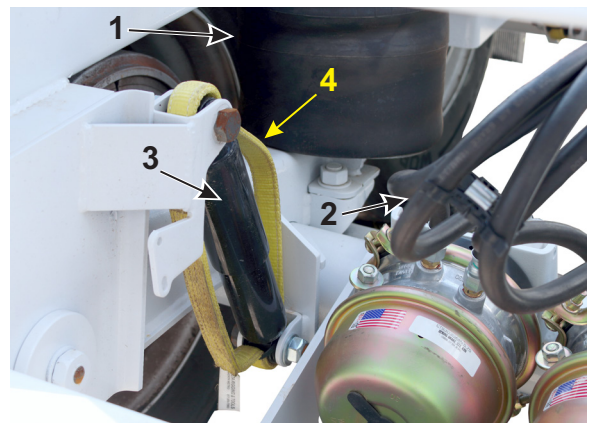

Figure 4-18 – Shock Absorber Safety Strap
- a. Check the condition of the air bags (1, Figure 4-18) and air lines (2, Figure 4-18) to all air bags. If any wear or damage is noted, the trailer is required to be taken out of service until repairs have been completed.
- b. Check the shock absorber safety strap (4, Figure 4-18) around each of the rear axle shock absorbers (3, Figure 4-18) for signs of wear or damage. If any is noted, these straps must be replaced before continuing trailer operation.